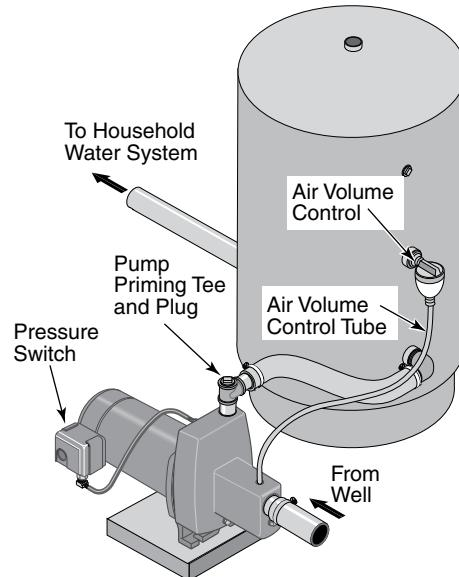

Figure 5: Standard Tank Connections
(FIGURE 5)
Step 1. Install one tee in the pump discharge port (see Figure 5).
- Step 3. Remove the 1/8" NPT pipe plug from the pump Air Volume Control (AVC) port (see Figure 5). Run tubing from the pump's AVC port (see Figure 5) to the port on the AVC mounted on the tank. See instructions provided with tank and AVC for details. AVC port location will vary, depending on your pump model (see exploded views, Pages 10-11).